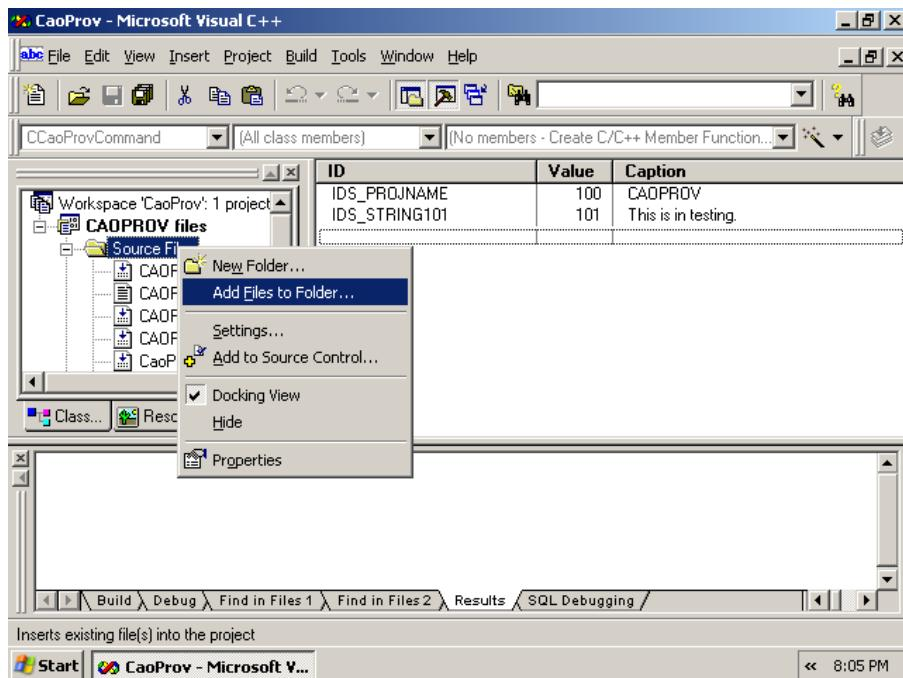

Figure5-3 Add a file to the the folder
Next, right-click in "Source Files" of "File View" as shown in **Figure5-3**, select "Add the file to the folder (F)", and then add "Devich.cpp" and "Serial.cpp".